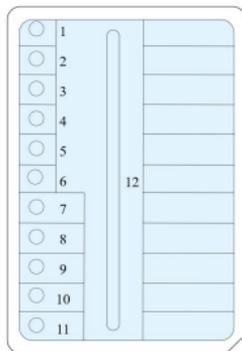

Figure 9-1: MGIDL-T7 Washing Plate
- Prepare the MGIDL-T7 washing plate: take a clean and empty post-load plate (see Figure 9-1), add 4 mL 0.1 M NaOH into well No.11, 4 mL 1M NaCl + 0.05% Tween-20 into well No.10, 4 mL laboratory-grade water into well No.9 and 20 mL laboratory-grade water into well No.12.